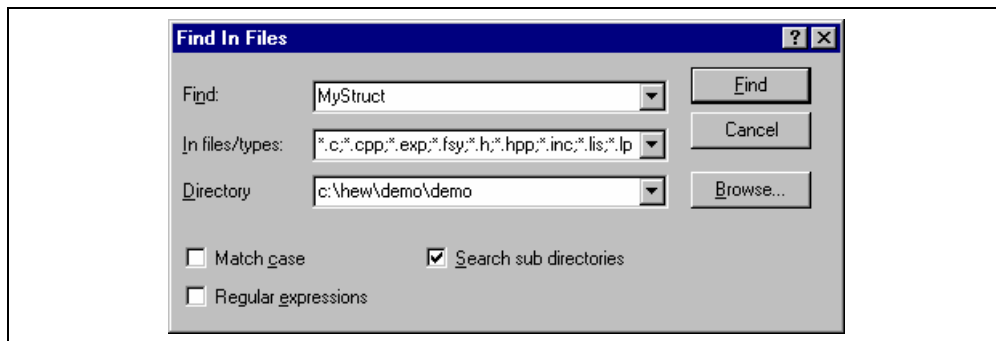

Figure 4.3: Find in Files Dialog
1. Select **[Edit->Find in Files...]**, select **[Find in Files...]** from the editor window's local menu or click the find in files toolbar button (🔍). The "Find in Files" dialog box will be displayed (figure 4.3).